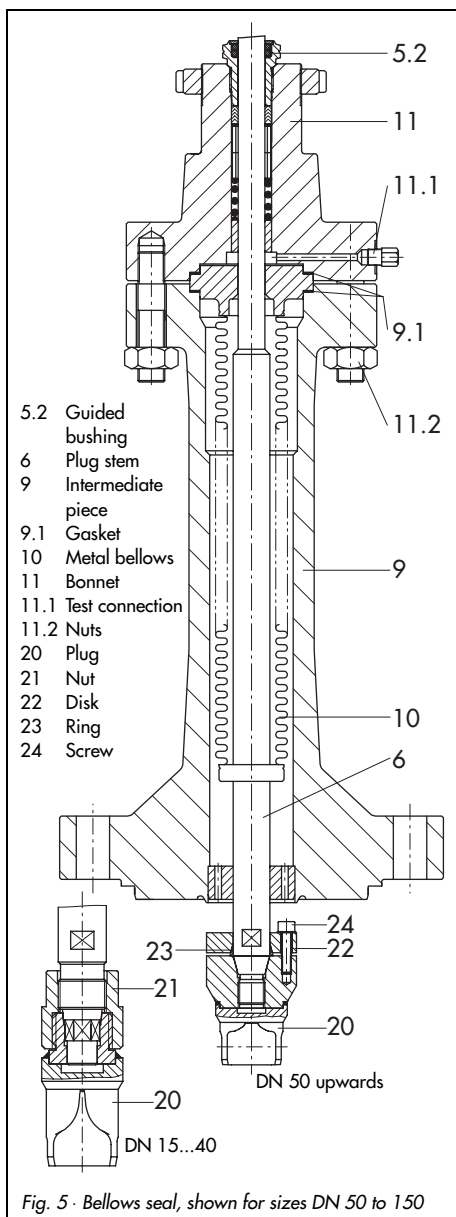

Fig. 5 · Bellows seal, shown for sizes DN 50 to 150
Versions with a metal bellows seal (Fig. 5) include a test connection (11.1) located on the top flange to check the bellows for any leakage. We recommend connecting a suitable leakage indicator (e.g. contact pressure gauge, drainage into an open vessel or sight glass).
The metal bellows (10) can only be replaced as an entire unit together with the plug stem. To do this, proceed as described in section 5.1.2 (Fig. 5).